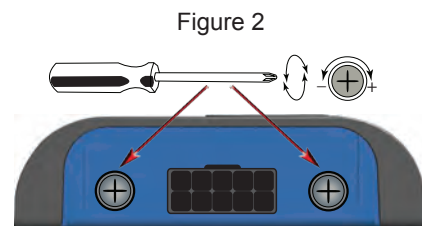

Figure 2
4. Slowly adjust level on LP6-4 until you reach the target voltage of the amplifier. (figure 2)
3. Slowly adjust front channel gain of LP6-4 until just a hint of distortion is audible, and then back down gain just under that threshold and the distortion goes away. (figure 2)